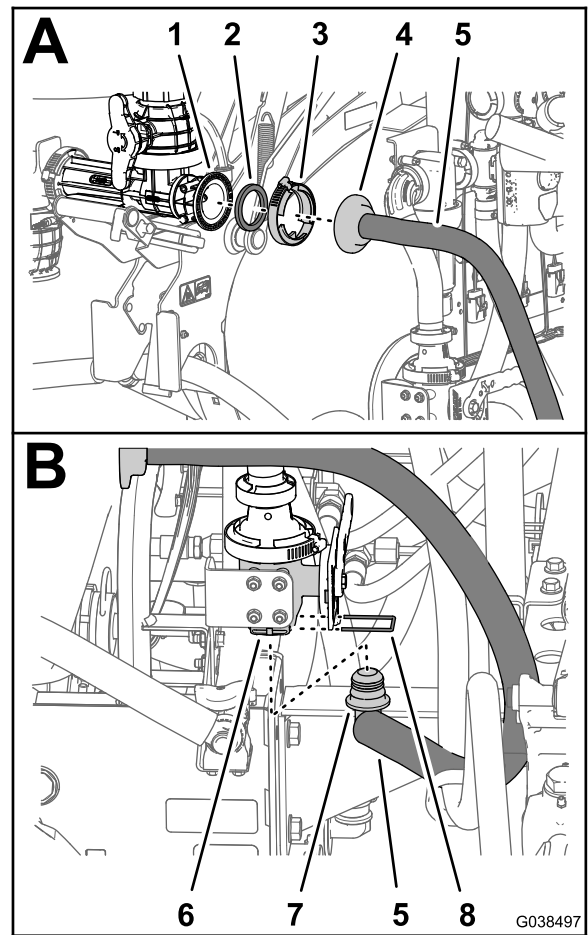

Figure 101
1. Align the straight barbed fitting of the eductor supply hose 2 x 88 cm (3/4 x 34-11/16 inches) with the gasket that you removed in step 2 of Disconnecting the Optional Eductor Kit \(page 9\) with the flange of the eductor (Figure 101).
4. Assemble the 90° barbed fitting of the eductor supply hose into the bottom port of the eductor-shutoff valve (Figure 101).
5. Secure the 90° barbed fitting to the port of the eductor shutoff valve with a small retainer (Figure 101).